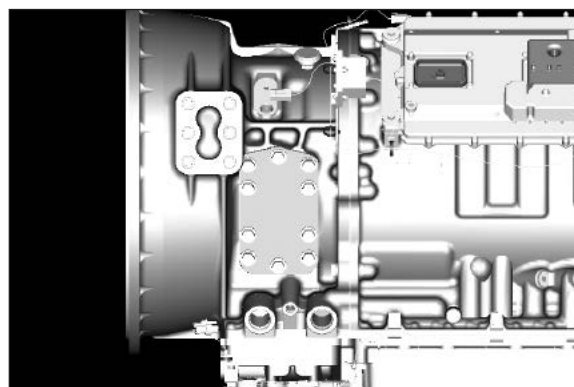

Figure 28
1. Remove the PTO aperture plate with a 16 mm socket (**Fig. 28**).